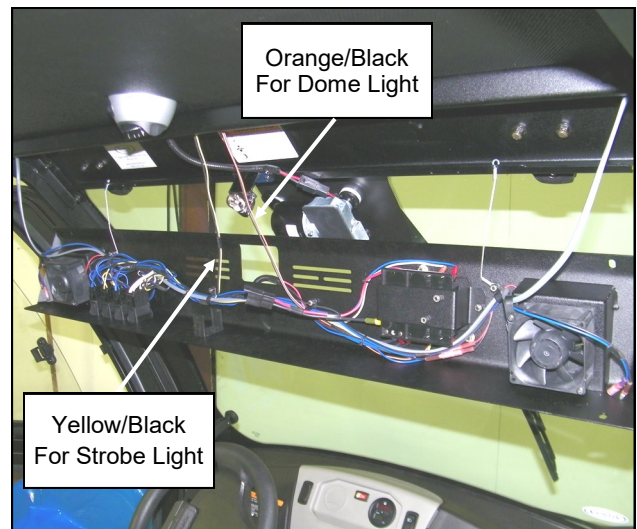

Fig. 2.3
- 2.3 Cut the cable tie from each of the two coiled wires inside the console. Be careful to not cut any wires. Feed each wire through the hole in the roof directly above the wire. See figure 2.3.